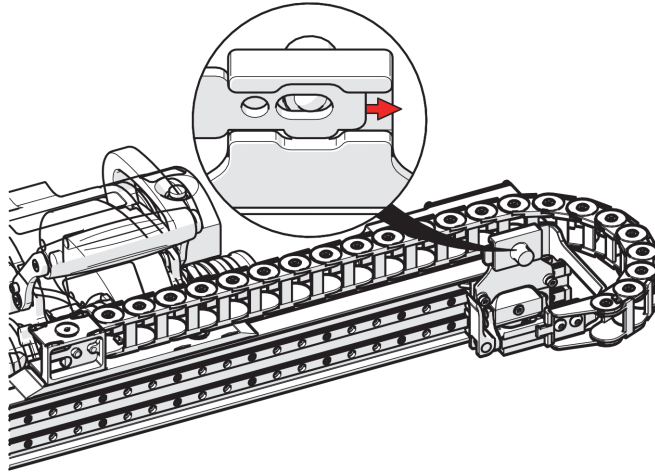

Figure 2-29 Slide bracket attaching to carriage
3. Slide the cable tray bracket until it locks in place (see Figure 2-29 on page 68).